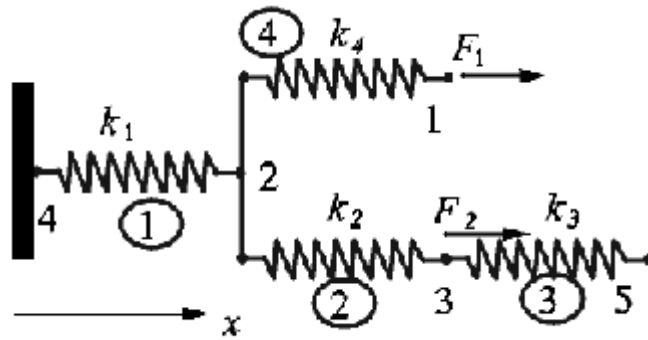

Figure 13:
6. For the system shown in figure 13 write the global stiffness matrix using FEM approach and specify the displacement boundary conditions, for nodes 4 and 5 are fixed. [16]